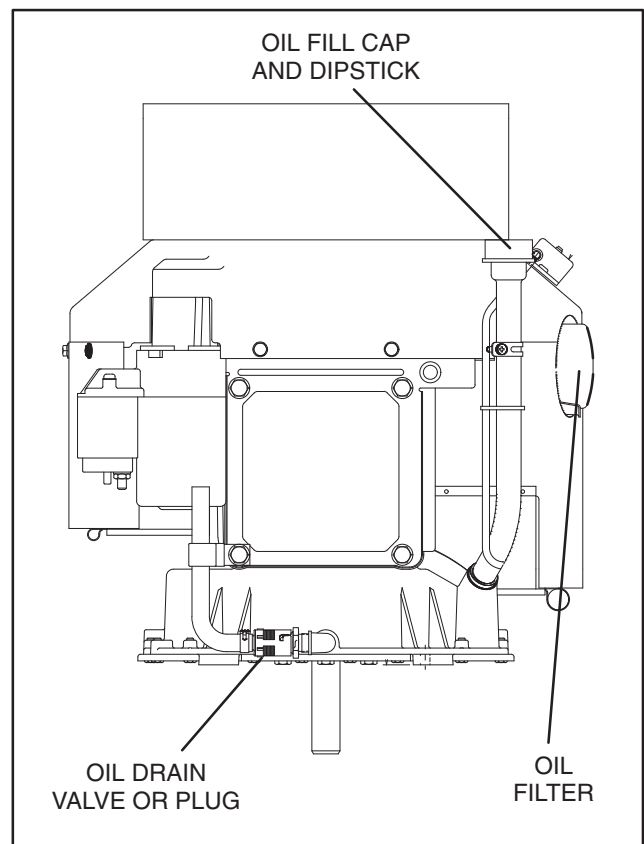

FIGURE 5. OIL FILL CAP AND DIP STICK, FILTER AND DRAIN
4. Check the engine oil level. First park the equipment on a level surface, stop the engine and wait a minute or so to allow the oil to settle in the crankcase. Then turn the oil fill cap (Figure 5) counterclockwise and lift it from the
Refer to Table 2 for scheduled oil change and filter replacement and see Figure 5.